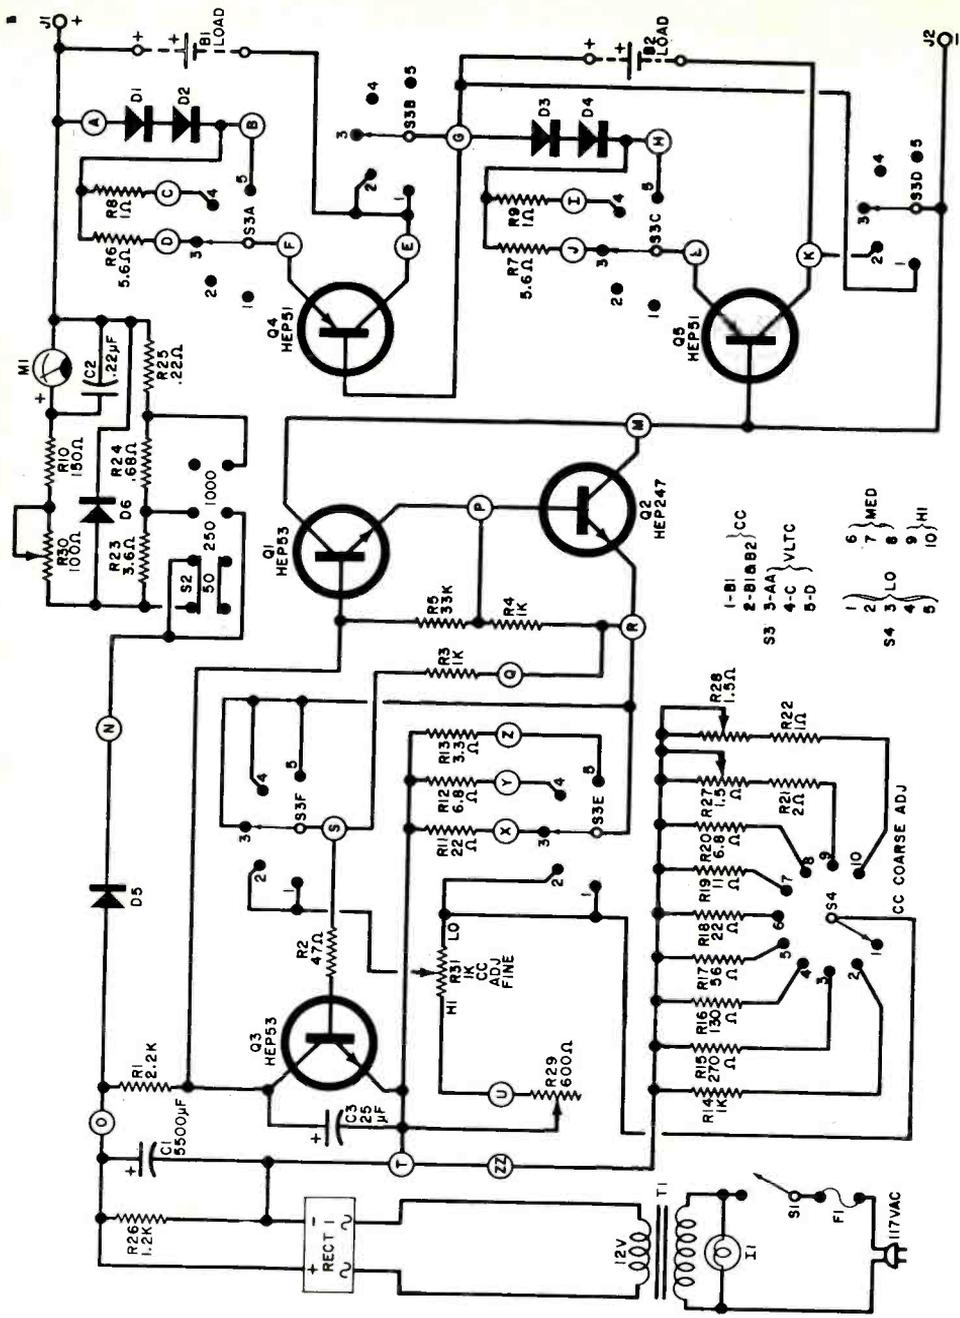

Fig. 1. The letters in circles are terminals on the main perf board. The position identifiers for S3 and S4 should be duplicated at these front-panel controls.
**Construction.** The schematic of the battery charger is shown in Fig. 1. Wiring and layout are not critical. In the prototype shown in the photos, a piece of perf board  $3\frac{1}{2}'' \times 4''$  was used to support most of the components. Layout is shown in Fig. 2. Optional transistor sockets were used in the prototype. Note that the metal cases of *R27*, *R28*, and *R29* provide negative return to terminal ZZ.